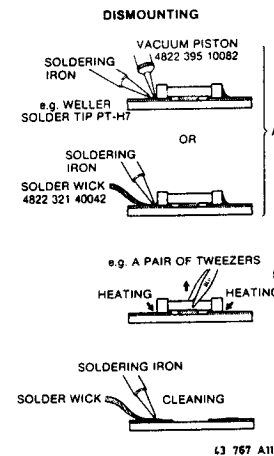

Fig. 4
- Heat the solder (for 2–3 seconds) at each terminal of the chip. Small components can, by means of litz wire and a limited horizontal force, be removed with the soldering iron. They can also be removed with a solder sucker (see Fig. 4) or